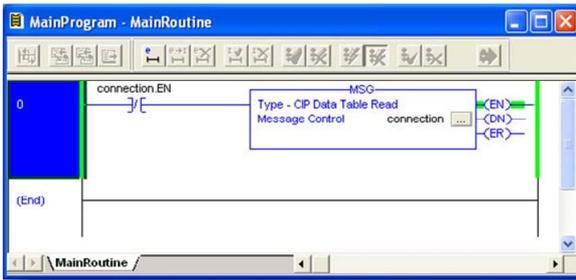

Figure 93: Complete Program
6) The program is now complete. Refer to Figure 93.